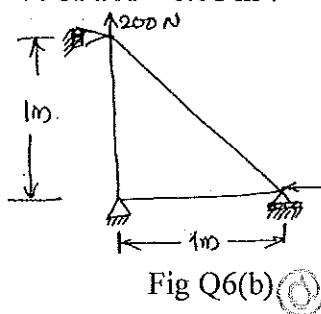

Fig Q6(b)
- b. Determine the nodal displacements in the truss segments subjected to concentrated load as shown in Fig Q6 (b). Take $E = 70\text{GPa}$ $A = 0.01\text{ m}^2$. (10 Marks)